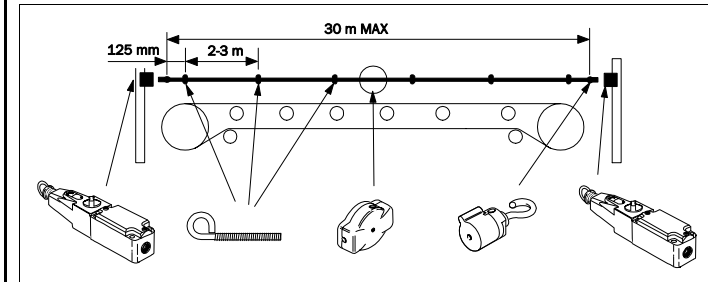

Fig. 2: Installing the actuating rope
- The first and last eye bolt must both be fastened 125 mm from the rope switch or from the tensioning spring (see Fig. 2). All further eye bolts are placed 2 to 3 m apart.